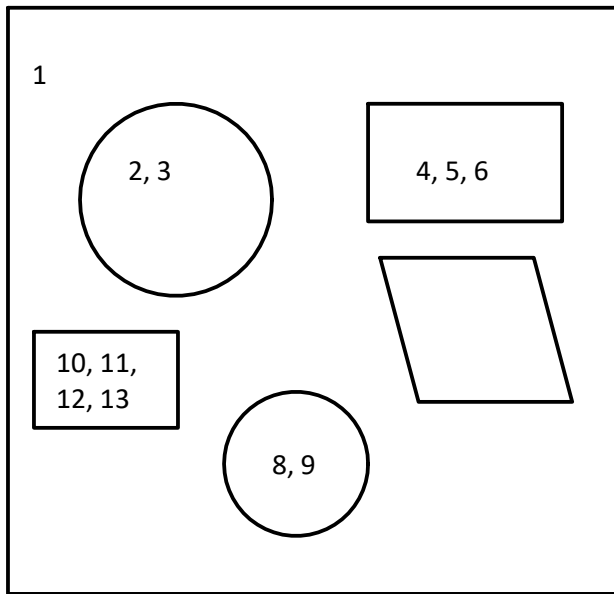

Figure 1: A scrapbook page
- ♦ For example, in Figure 1 to the left, we are making 13 scans, to capture...